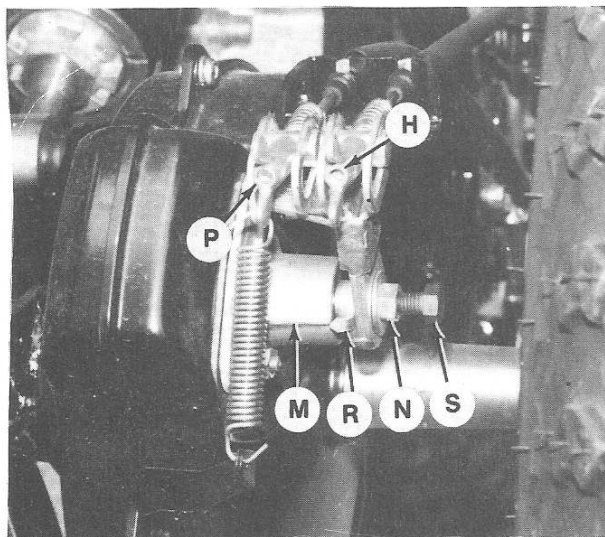

Fig. Y6-21—View of rear brake assembly.
To adjust the rear brake, proceed as follows: Loosen the handlebar lever adjuster and both cable adjusters at the rear brake. There must be sufficient free play in the brake cables so adjustment is not affected. Loosen brake arm locknut (N—Fig. Y6-21) and adjuster screw (S). Rotate handlebar brake cable adjuster (H) so pointer (R) is aligned with mark (M). Turn in adjuster screw (S) until tight then back it out ¼ turn. Tighten locknut (N) while holding adjuster screw. If the adjuster screw bottoms against the locknut, the brake pads are worn and should be renewed. Turn in pedal cable adjuster (P) until there is a 0-1 mm (0.00-0.04 in.) gap between cable nut and front end of slot in brake arm.